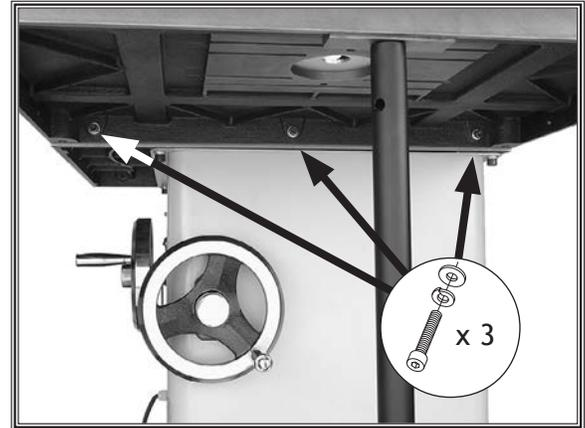

Figure 8. Router table attached to the table saw.
6. With the help of another person to hold the table and leg assembly, align the mounting holes in both tables and secure them together with the (3) M8-1.25 x 30mm cap screws, (3) 8mm lock washers, and (3) 8mm flat washers, as shown in **Figure 8**.